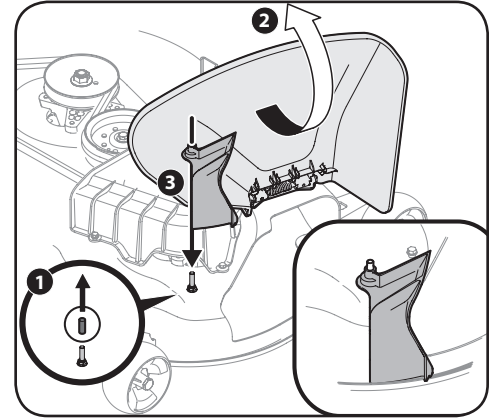

Figure 4-26
2. Remove the deck pin rubber protective cap, 1 in Figure 4-26.
3. Raise the chute deflector (2 in Figure 4-26) on the deck and hold it while you install the (731-10133) chute adapter (3), included in hardware pack 689-01419, onto the deck as shown in Figure 4-26.